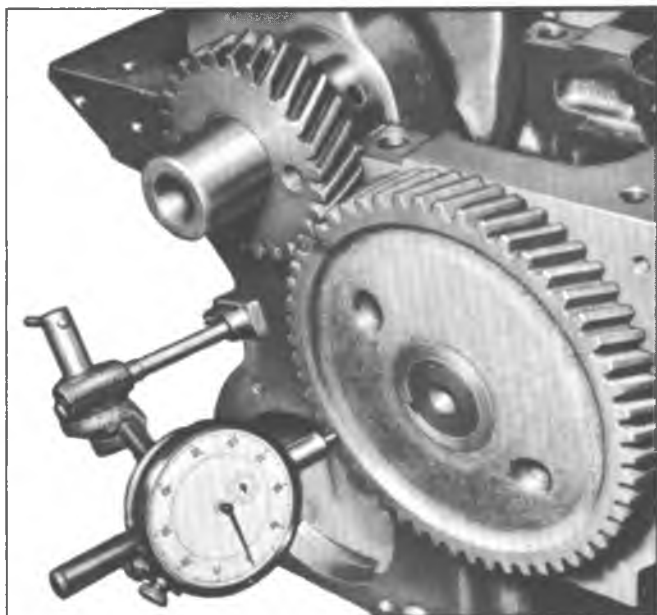

Fig. 26L—Checking Camshaft Gear Runout
3. Check camshaft and crankshaft gear runout with a dial indicator (fig. 26L). The camshaft gear run out should not exceed .004" and the crankshaft gear run out should not exceed .003".